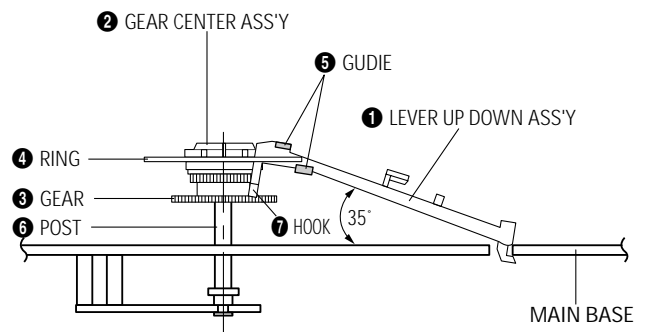

Fig. 4-25 Assembly of Lever Up Down Ass'y, Gear Center Ass'y
- 1) Insert the Lever Up Down Ass'y ① in the 2 rectangular holes on Main Base.
- 2) Lift the Lever Up Down Ass'y ① about 35 degree. (Refer to Fig. 4-25)
- 3) Insert Ring ④ of the Gear Center Ass'y ② in the Guide ⑤ of the Lever Up Down Ass'y ①.
- 4) Insert the Gear Center Ass'y ② in the post ⑥ on Main Base.
- 5) Push down the Lever Up Down Ass'y ① for locking of the Hook ⑦.